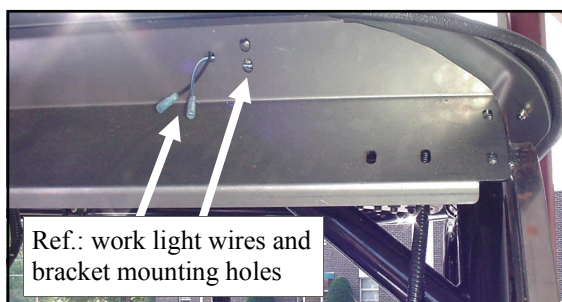

Fig. 8.2 View from driver's side
8.2 If installing optional work lights, feed the two wires through the hole in the windshield support where the Heyco plugs were located. See figure 8.2. If not installing optional work lights, push the wiring back into the holes of the overhead console.
8.4 If not installing optional work lights, install four 1/4-20 x 3/4" long Truss head, Phillips head bolts into factory installed threaded inserts in the front of the overhead console. Leave bolts loose. Note: two per side where the work light mounting bracket would be mounted. See figure 8.2 on the previous page.